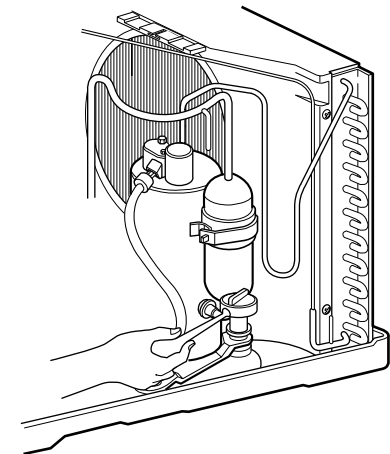

Figure 9
6. Remove the compressor. (See Figure 9)